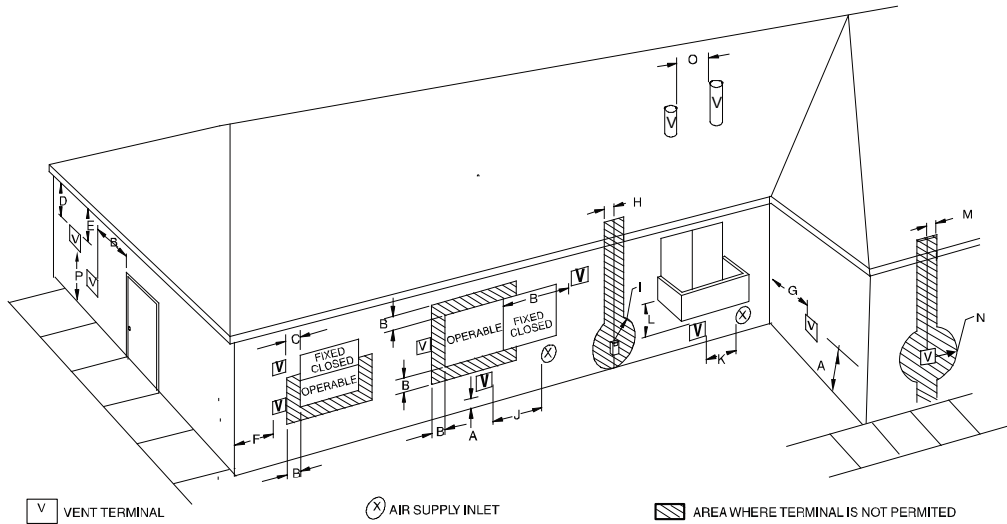
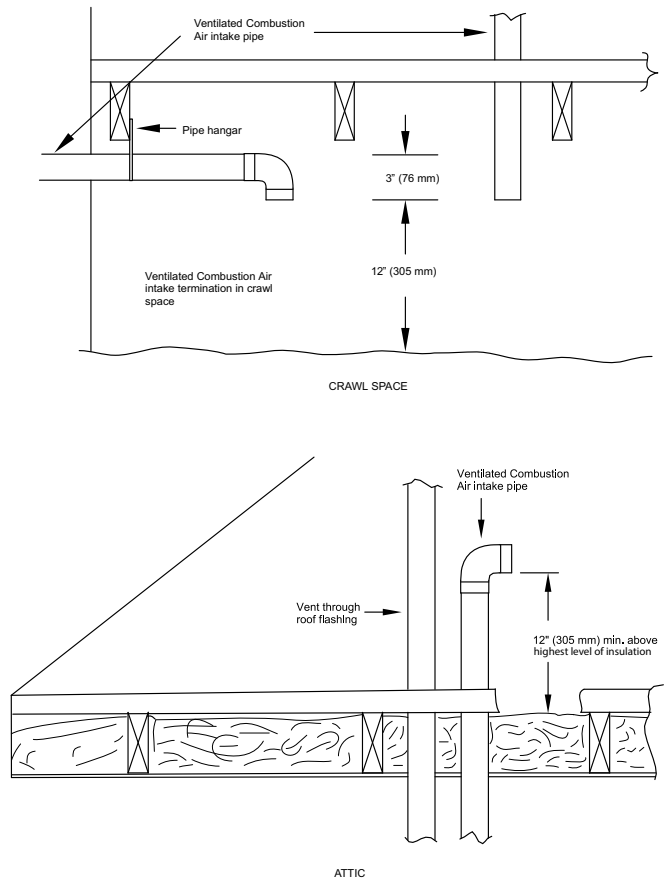

Fig. 42 – Ventilated Combustion Air and Non-Direct Vent Termination Clearance
Fig. 47 – Vent Terminations for Ventiladed Combustion Air ^{A10497}
In a ventilated combustion air option, the vent terminates and discharges the flue products directly to the outdoors similar to a direct vent system. See Fig. 42 for references to clearances required by National code authorities.
in the Air For Combustion and Ventilation Section. Do not use an abandoned chimney to supply outside air to the furnace. See Fig. 42 for references to vent clearances required by National code authorities.
For vent termination clearance, references to National codes are shown in Fig. 41 for Direct Vent/2-Pipe system and Fig. 42 for Ventilated Combustion Air/Non-direct Vent/1-Pipe system. For exterior termination arrangements, refer to Fig. 39 for Direct Vent/2-Pipe system and Fig. 40 for Ventilated Combustion Air/Non-Direct/1-Pipe system. Contact Local code authorities for other requirements to and/or exemptions from the National codes shown in the figures.
1. Comply with all clearance requirements stated in Fig. 41 or Fig. 42 per application.
The vent pipe for a Ventilated Combustion Air System must terminate outdoors. See Fig. 42 for references to vent clearances required by National code authorities. Allowable vent terminations are shown in Fig. 40. The combustion air pipe terminates in a well-ventilated attic or crawl space. Follow the clearances as shown in Fig. 47.
The vent pipe for a Non Direct Vent (1-pipe) system must terminate outdoors. See Fig. 42 for references to vent clearances required by National Code authorities. Allowable vent terminations are shown in Fig. 40.